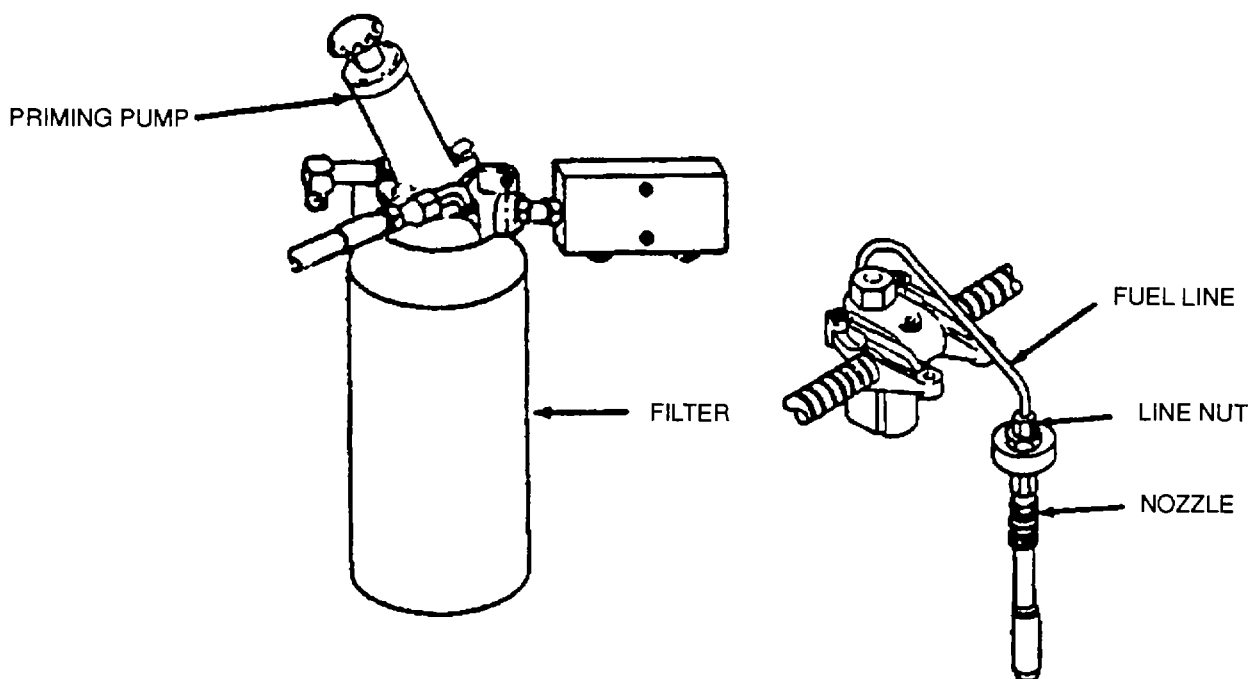

Figure 4-16. HP Pump Diesel Engine Fuel System Bleeding
- b. Unlock the fuel priming pump (Figure 4-16).